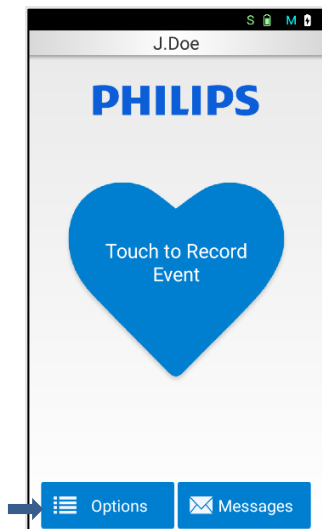

Figure 13.11-1 Options on Home Screen
- 1) From Home screen, select Options (Figure 13.11-1)